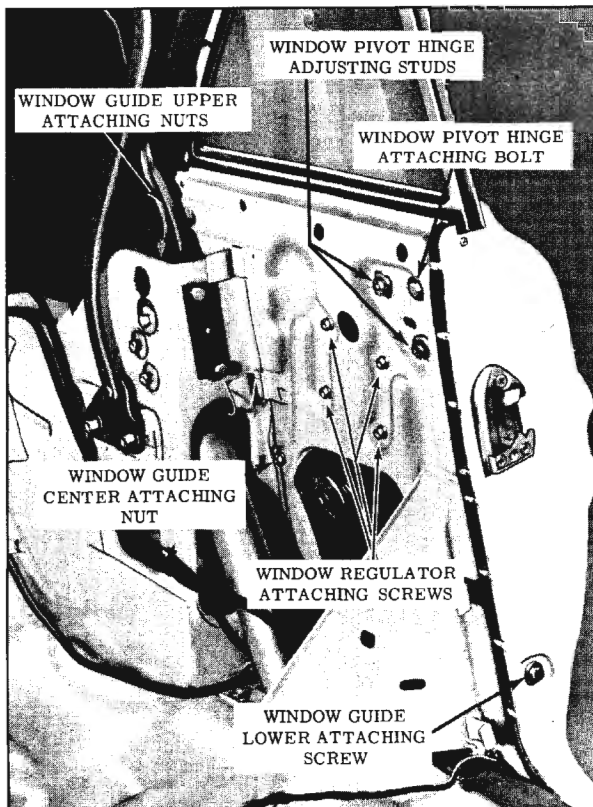

Fig. 16-68 Rear Quarter Hardware ("67" Styles)
3. Remove window pivot bolt. (Fig. 16-68) Disengage window male hinge from female hinge plate; then raise window to disconnect window lower sash channel cam from roller on window regulator lift arm and remove window.
1. To adjust the limit of the rear quarter window up travel, loosen the window guide upper attaching screws. (Fig. 16-68) Adjust upper stop to desired position and tighten guide attaching screws.
- a. Up or down or fore or aft window adjustment: Loosen pivot bolt and both adjusting stud nuts. (Fig. 16-68) Position window as required; then tighten pivot bolt and stud nuts.
- b. In or out adjustment of top of window: Loosen lower adjusting stud nuts and slightly loosen rear stud nut. Adjust lower stud in or out, as required; then tighten both stud nuts. (Fig. 16-68)
- c. In or out adjustment of rear of window: Loosen pivot hinge rear adjusting stud nut and (slightly) lower adjusting stud nut. Loosen window guide upper attaching nuts and center stud nut. (Fig. 16-68) Adjust rear adjusting stud in or out, as required, then tighten both stud nuts. Adjust window guide for proper alignment with window and tighten upper attaching nuts and center stud nut.
5. Remove regulator attaching screws. (Fig. 16-68) Disengage regulator lift arm roller from window lower sash channel cam and remove regulator.
3. Remove window guide upper and center attaching nuts and lower attaching screw. (Fig. 16-68) Disengage window guide and remove guide through large access hole.